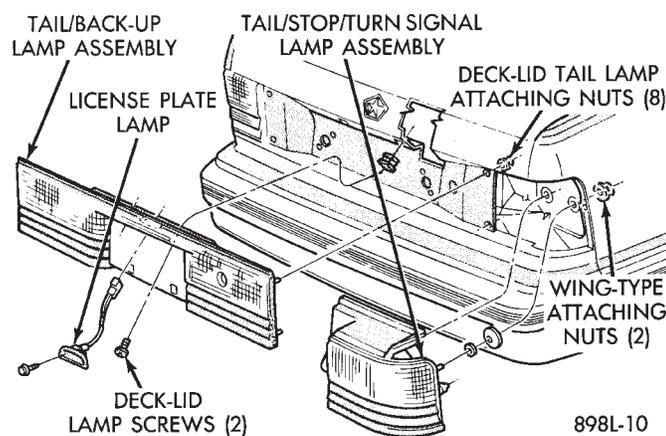

Fig. 4 Rear Lighting—AA/P or AA/D Body
TAIL, STOP AND TURN SIGNAL LAMP OR BULB**REMOVAL (FIG. 4)**
TRUNK LID MOUNTED TAIL AND BACK-UP LAMP BULB**REMOVAL (FIG. 4)**
(1) Remove deck lid liner as necessary. Through the access hole in the inner deck lid, rotate socket counterclockwise one-half turn, and pull the socket and bulb assembly from the lamp body.
(2) Remove the bulb from the socket (Fig. 4).
REMOVAL (FIG. 4)
(1) Refer to bulb replacement and remove the socket and bulb assemblies.
(2) Remove eight nuts and two screws securing the tail lamp to the deck lid and remove the lamp from the vehicle (Fig. 4).